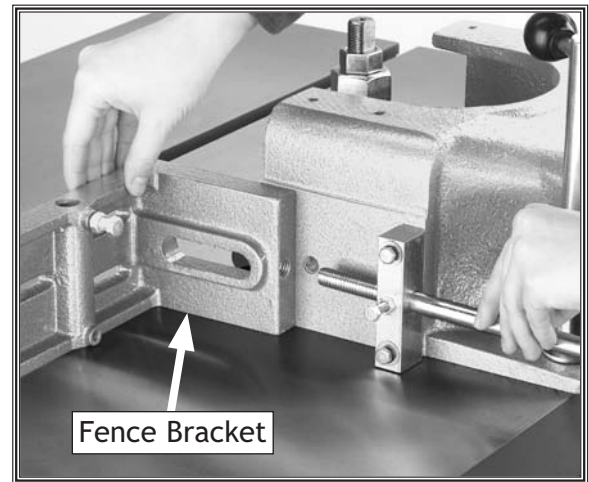

Figure 11. Attaching fence bracket to adjuster.
4. For each side of the guard, thread the fence adjuster into the fence brackets, as shown in **Figure 11**.